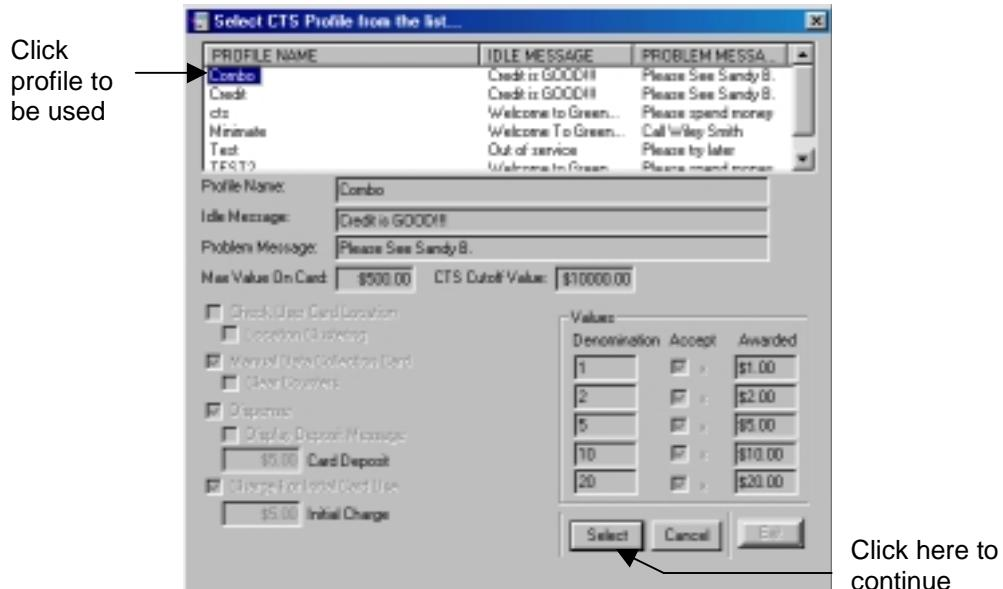

Figure 9.13 Selecting a Cash CTS Profile
5. Select profile from Profile List Window (Figure 9.13).
6. Review to verify that the profile information is correct, and click the Select button (Figure 9.13).